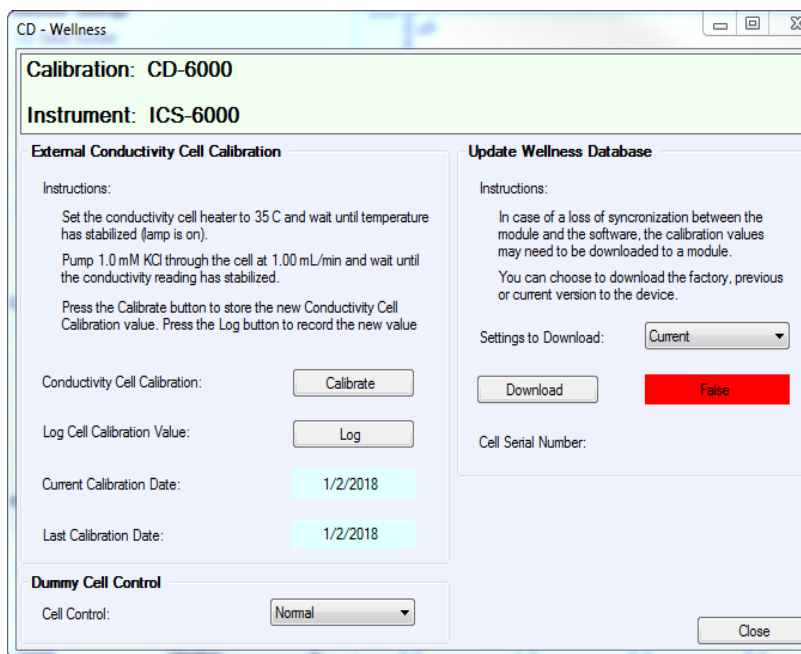

Figure 10-56. Wellness Panel: Dionex ICS-6000 Conductivity Detector
2. Under **Detector Settings**, click **Calibration**. The Wellness panel opens (see Figure 10-56).